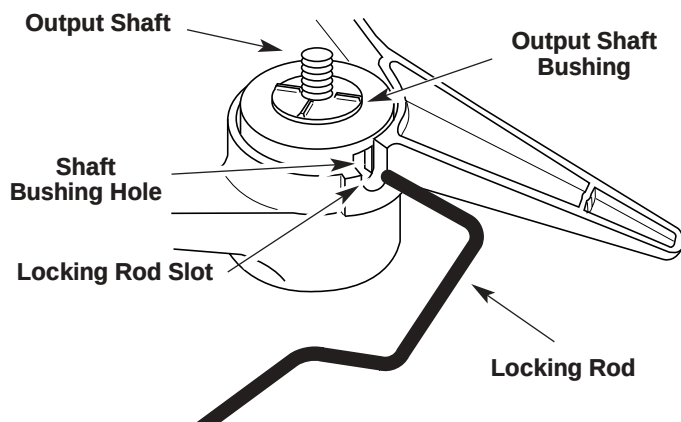

Fig. 8
1. Align the shaft bushing hole with the locking rod slot and insert the locking rod into the shaft bushing hole (Fig. 8).
- Align the shaft bushing hole with the locking rod slot and insert the locking rod into the bushing hole (Fig. 8).
- Align the shaft bushing hole with the locking rod slot and insert the locking rod into the shaft bushing hole. (Fig. 8). Screw the cutting attachment clockwise onto the output shaft. Tighten securely.